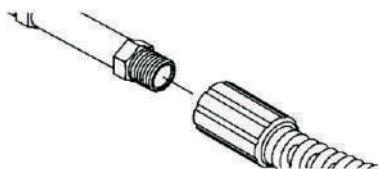

Fig 5. Connect High Pressure Hose to Pump
2). Attach other end of high pressure hose to high pressure outlet on pump (Fig5). Tighten by hand.